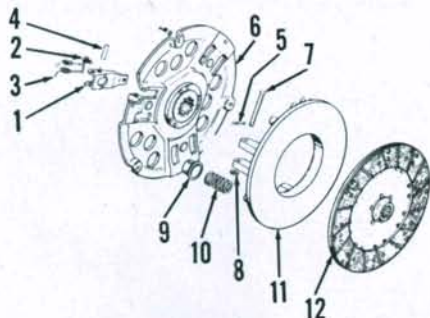

Fig. 176—Exploded view of MF255 and MF265 split torque clutch assembly.
**153. OVERHAUL.** To disassemble the removed pressure plate and cover unit, place the assembly in a press as shown in Fig. 175 and apply only enough pressure to relieve tension on pins. Remove pins (7—Fig. 176) and lift off cover.